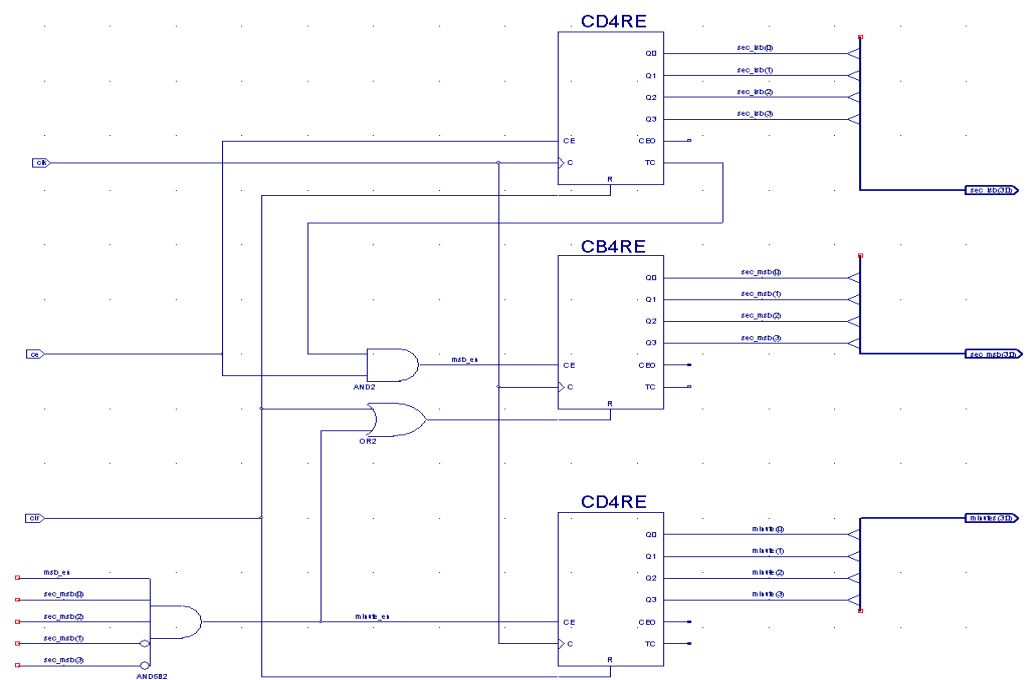

Figure 3-16: Completed time\_cnt Schematic
9. Compare your **time\_cnt** schematic with Figure 3-16 to ensure that all connections are made properly.
5. Click on the remaining AND5b2 input nets so that the wires named sec\_msb(1) and sec\_msb(3) are attached to the inputs with inversion bubbles. Refer to Figure 3-16.